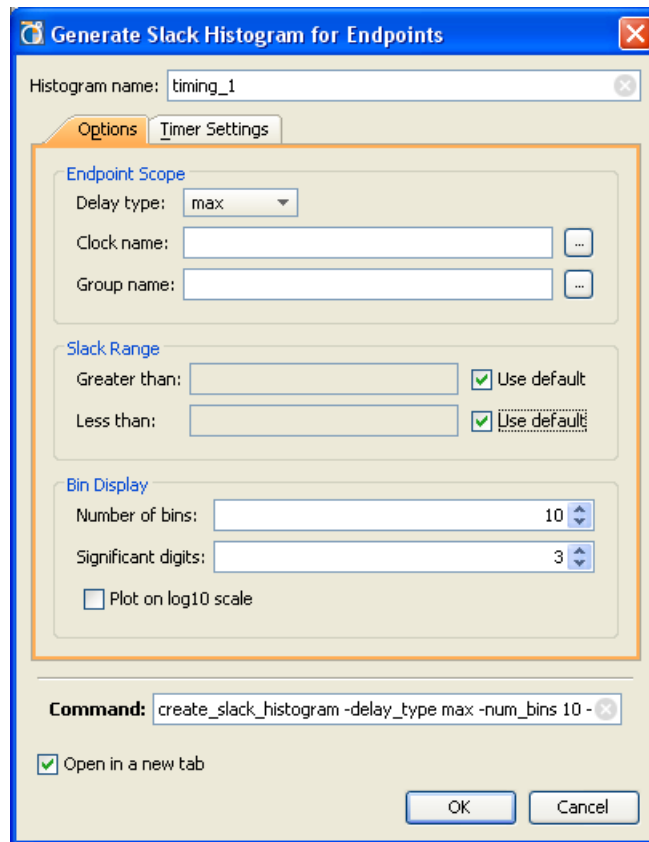

Figure 7-19: Generate Slack Histogram for Endpoints: Options Tab
2. The Generate Slack Histogram dialog box opens, as shown in Figure 7-19, page 245.
You can specify the options used to generate the histogram using the Options tab of the Generate Slack Histogram dialog box. Figure 7-19 shows the Options tab.